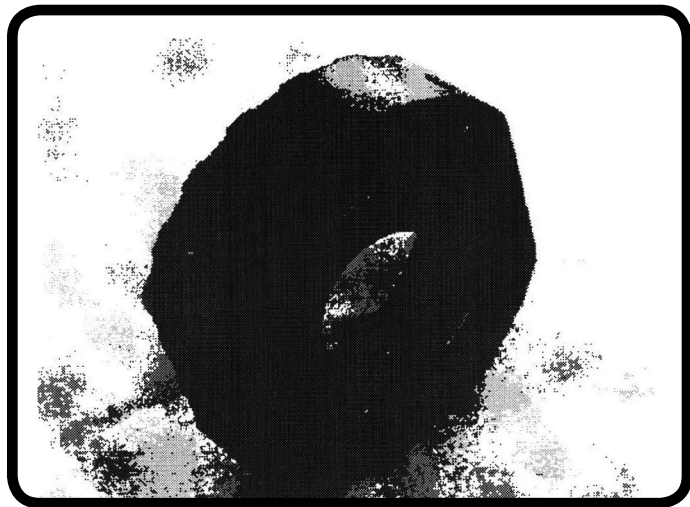

Figure 2
2. Place a shear pin into each window hole. It should be about flush (**Figure 2**).
3. Place a spacer into the center of each driver, wide end toward the teeth if not symmetrical (**Figure 2**).